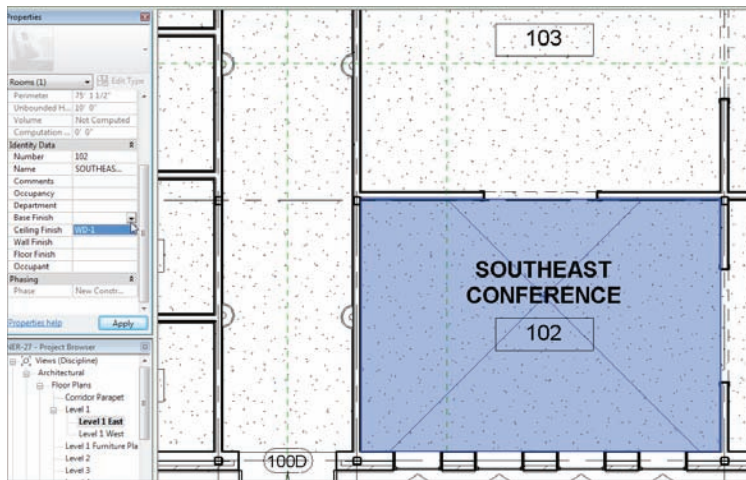

FIGURE 15.9 When a field has been added to the database, it's available for the rest of the rooms.
10. In the Properties dialog, click into the Base Finish field. Click the arrow for the pull-down menu and select WD-1, as shown in Figure 15.9.